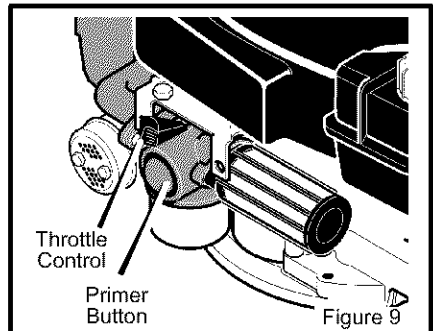

Figure 9
When starting a cold engine, push the **primer button** five times (see Figure 9). Wait approximately two seconds between each push.
1. Push the **throttle control** forward to increase engine speed, or pull back to decrease engine speed (see Figure 9).